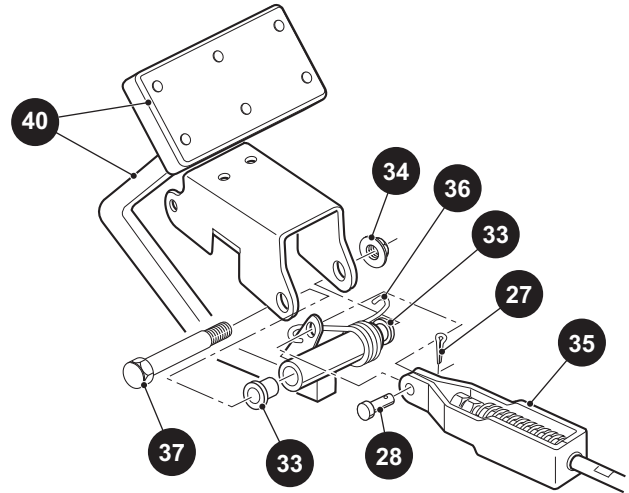

Figure 21 Brake Pedal Removal and Installation.
1. Disconnect the compensator assembly (35) from the brake pedal (40) by removing the cotter pin (27) and the clevis pin (28) (Ref. Figure 21).
3. Unhook the torsion spring (36) by inserting a thin blade screwdriver between the small hook and the bracket. Move the hook back and to the side to release the torsion spring
4. Remove the lock nut (34) and bolt (37) and remove the brake pedal.
5. Inspect the bolt (37) for corrosion that could cause binding. The bolt and both bushings (33) must be replaced if corrosion or wear is found (Ref. Figure 21).
7. Tighten the nut (34) to the torque values below.